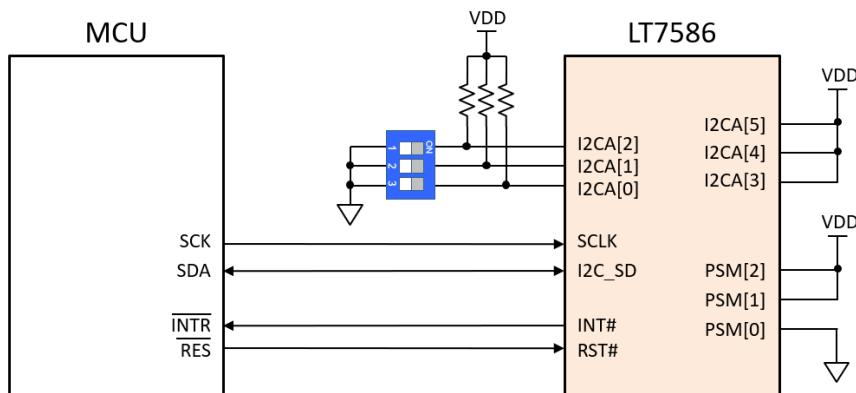
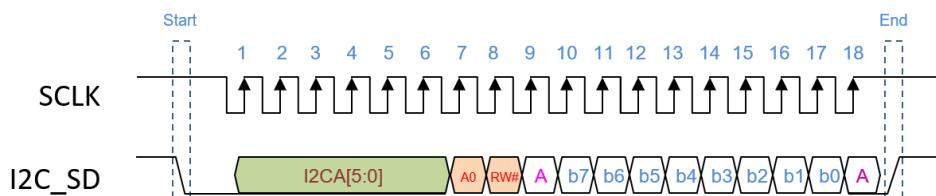

Figure 5-12: I2C Host Interface (without continuous read mode)
Figure 5-13: Timing Chart of I2C Host Interface
Figure 5-13 is the timing chart of I2C Host interface. Host has to find out the Device ID of the I2C device first, and then drives the Device ID in the first five clocks. Take Figure 5-12 as an example, the Device ID is 111000b. The definition of A0 and RW# is similar to SPI Host interface mentioned above. When Host drives A0 = 1 and RW# = 0, it means Host will write data (b7 ~ b0 at 10th ~ 17th Clock) to the Command Register or Display RAM. If Host drives A0 = 1 and RW# = 1, it means Host wants to read the data of the Command Register. LT758x will then drive the data (b7~b0) of the Command Register at 10th ~ 17th Clock. Host will then get the data of the Command Register. If Host drives A0 = 0 and RW# = 1, it means Host wants to read the data of the Status Register. LT758x will then drive the data (b7 ~ b0) of the Status Register at 10th ~ 17th Clock. Host will then get the data of LT758x's Status Register.
- Single Read Mode: PSM = 110b, as shown in Figure 5-12. Each command can retrieve a set of data only, no matter which response (ack/nack) is received.